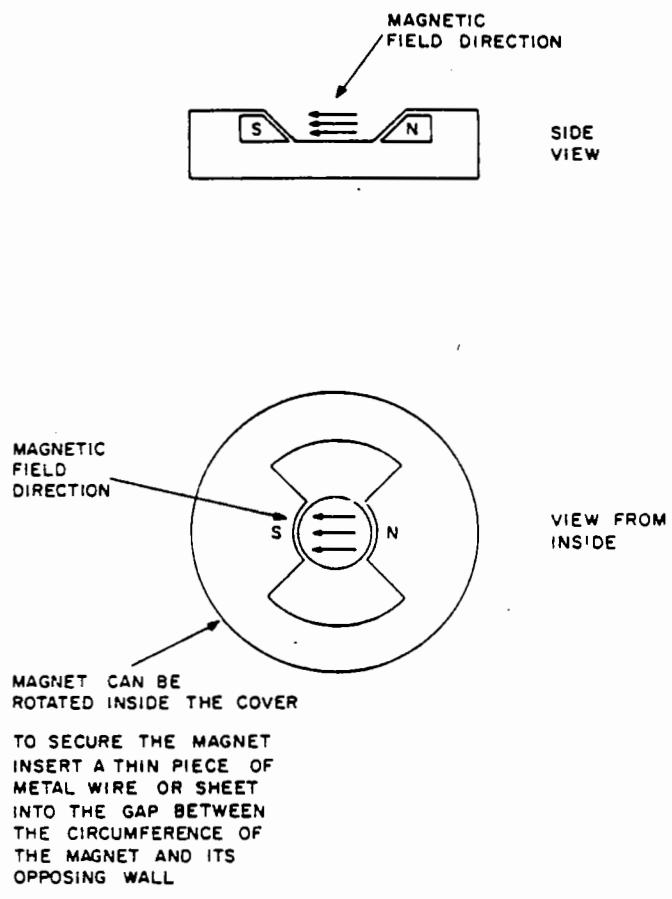

Fig. 3-3 Sensor Magnet & Field Configuration
3. The sensor contains a permanent magnet (Fig. 3-3). If the sensor is to be installed in a sputtering system which employs external magnetic fields, make sure the magnetic field direction of the sensor is not opposing the external magnetic field (Fig. 3-4).